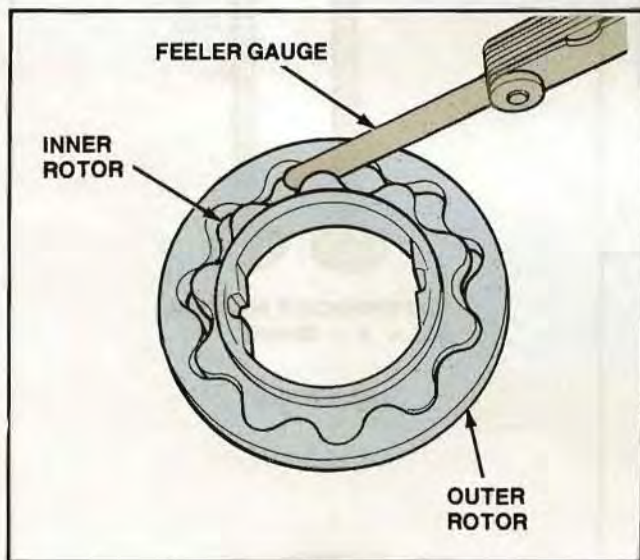

Figure 81. Inner Rotor Tip Clearance
2. Measure the inner rotor tip clearance (Fig. 81). Inner to outer rotor tip clearance must be within specification (see specifications below) with the feeler gauge inserted and the rotors removed from the pump housing.